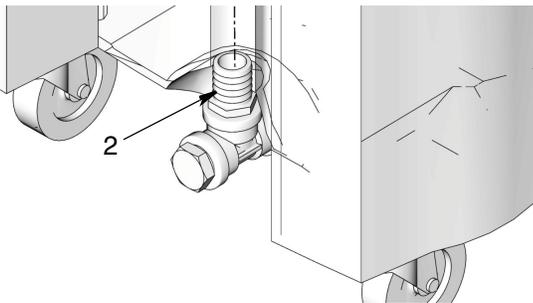

FIG. 4
- Wrap threads of new tube adapters (2) with thread tape.
- Install new tube adapters (2) on reservoir taking care not to damage adapter threads (FIG. 4).